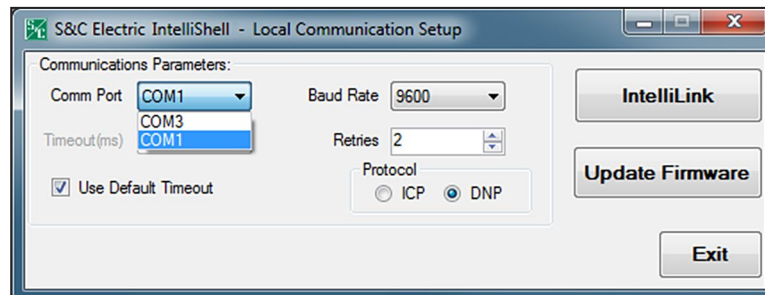

Figure 40. The S&C Electric IntelliShell—Local Communication Setup dialog box.
STEP 11. Click on the **Update Firmware** button. See Figure 40.